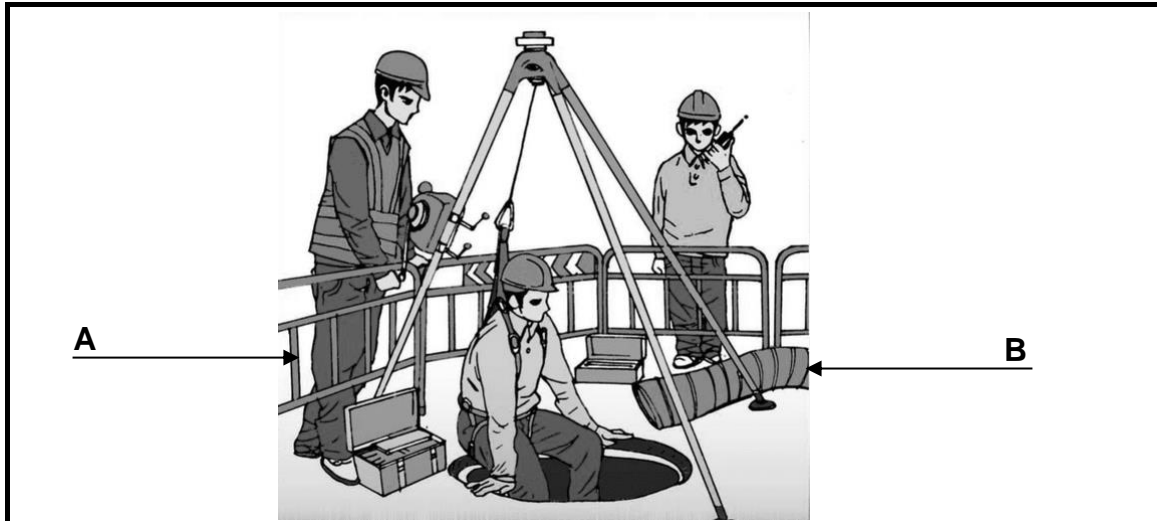

FIGURE 3.1
- 3.1 FIGURE 3.1 show workers who must work in a manhole. Answer the following questions with related to the safety measures which must be applied.